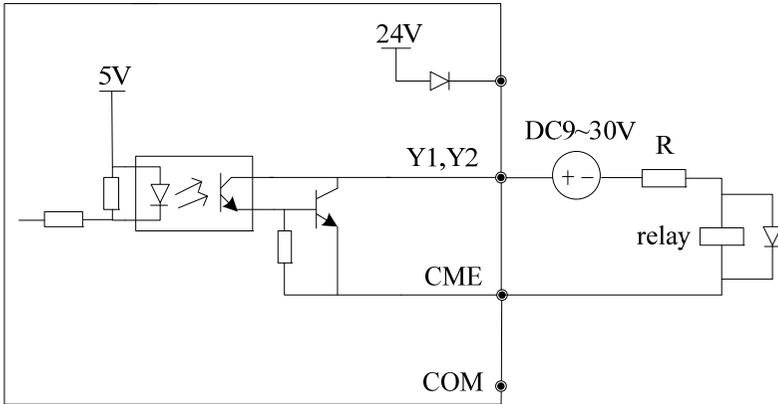

Fig. 2-31 Wiring method 2 of multi-function output terminal
6) Multi-function output terminals Y1 and Y2 can also use the external 9~30V power supply and the wiring method is shown in Figure 2-31.